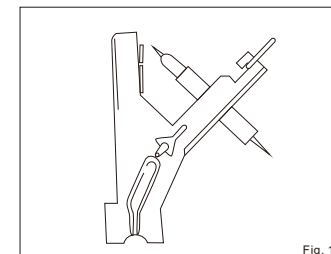

Fig. 18
- The electronic ignition will not function if it is wet. Be careful not to spill water, soup, etc. on it.(Fig. 18)